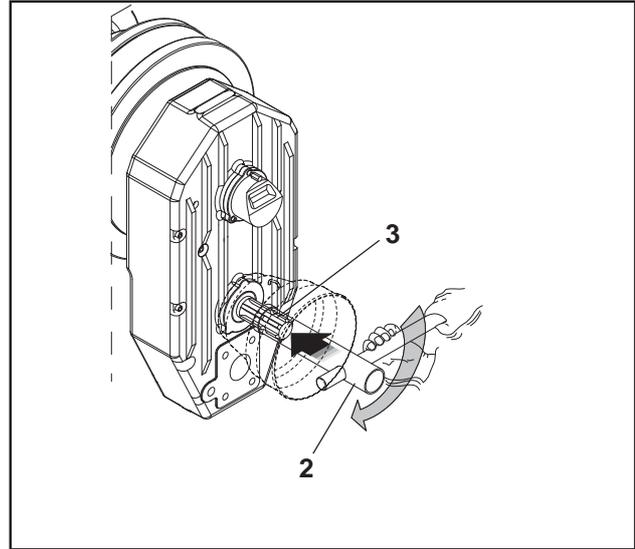

fig.2
- 3) Insert the supplied spanner (2, fig. 2) in the power takeoff (3, fig. 2).